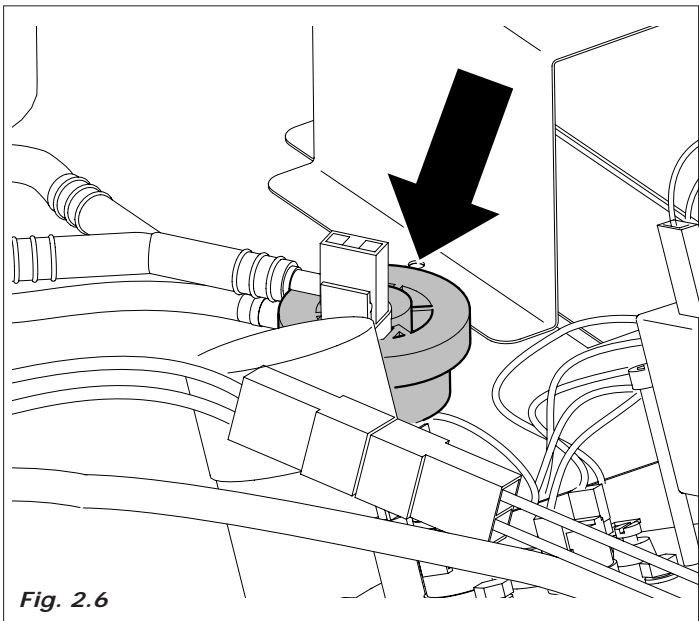

Fig. 2.6
- the pump that dispenses the quantity of programmed water and that is controlled by a specific electronic device, (volume meter), extracting the water from the coffee boiler(Fig.2.6).